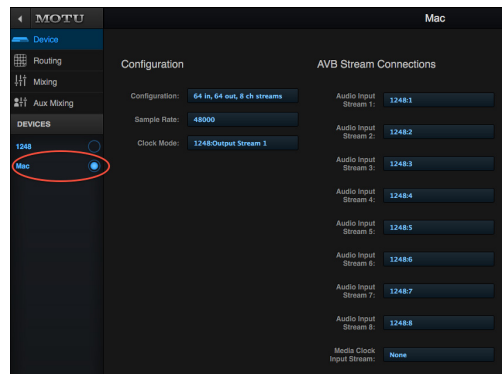

Figure 4-7: Accessing the AVB settings for the Mac in the MOTU web app.
- 3 From the Configuration menu (Figure 4-7), choose the channel mode for the Mac that best fits your workflow.
4 From the *Sample Rate* menu (Figure 4-7), choose the desired sample rate. Currently, the Mac only supports 48, 96 and 192 kHz sample rates.